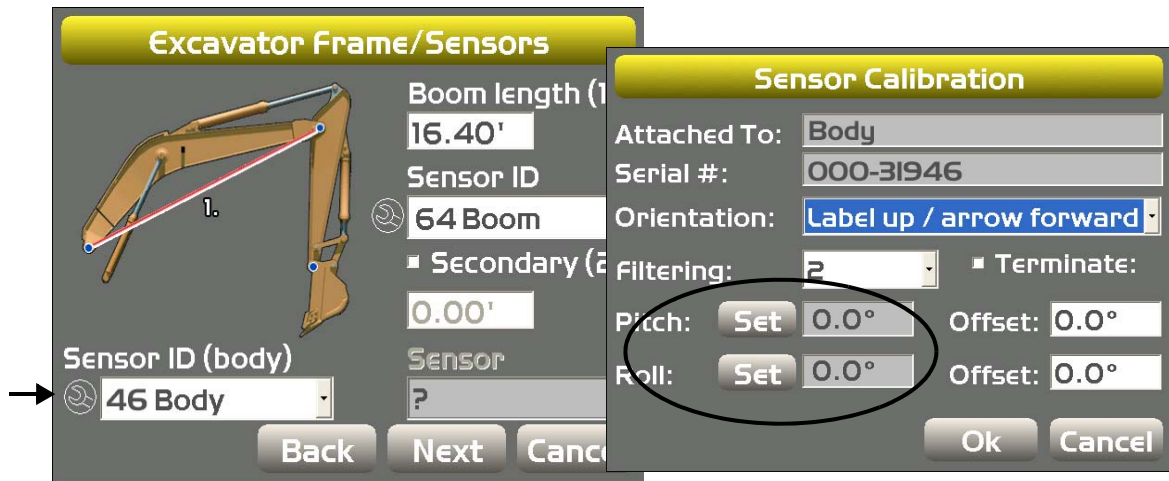

Figure 28: Set Pitch and Roll Values to Zero
- Tap **Set** next to **Pitch**, enter the value as zero, and tap **Set** again (Figure 28); repeat for the **Roll** value.